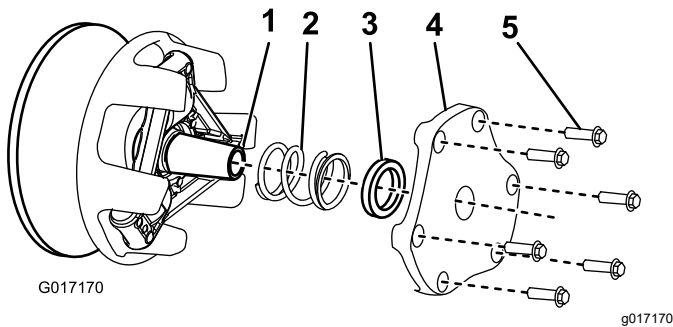

Figure 50
4. Set aside the cover, spacer, and spring (Figure 50).